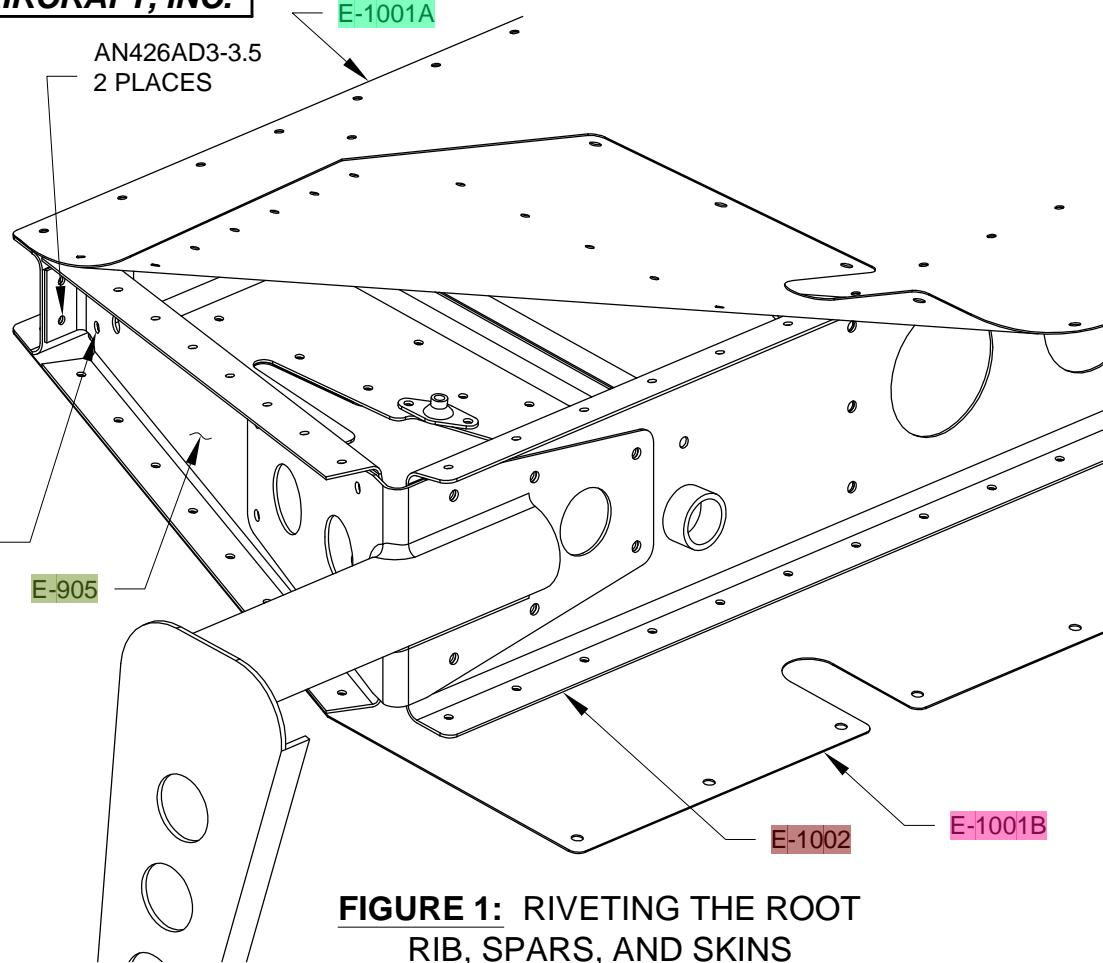

FIGURE 1: RIVETING THE ROOT RIB, SPARS, AND SKINS
Step 3: Place the elevators on a flat work surface with the clecos securing the E-1001 Skins to the E-1002 Front Spars hanging over the edge. Rivet the skins to the spars using the rivets shown on Page 9-20, Figures 1 & 2. For the time being, however, leave out the rivets in the spar flanges outboard of the outboard most E-1008 Rib and inboard of the inboard most rib. Not installing these rivets leaves the outboard and inboard sections of the elevators accessible for riveting the E-903 and E-904 Tip Ribs and the E-921 Elevator Gusset.
Step 1: Rivet the aft flange of the E-905 Root Rib to the E-1007 Rear Spar using the rivets shown in Figure 1.
Step 6: The rivets used in this step can be found on Page 9-20, Figures 1 & 2. Rivet the E-1001A Top Skin to the flange of the E-1002 Front Spar. Rivet the skin to the E-913 Counterbalance Skin and the flange of the E-903 Outboard Tip rib. Don't rivet to the flange of the tip rib aft of the rear spar; the E-1023 Trailing Edge still needs to be inserted.